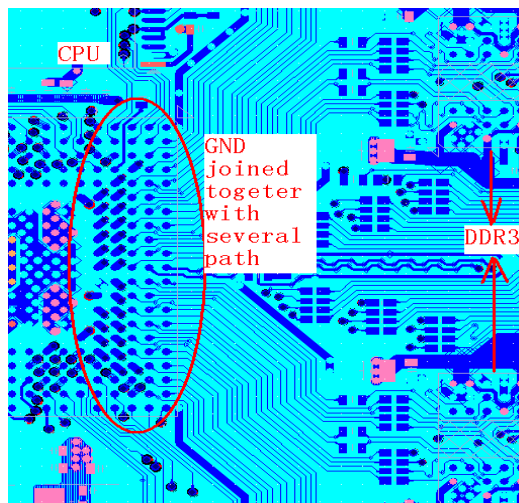
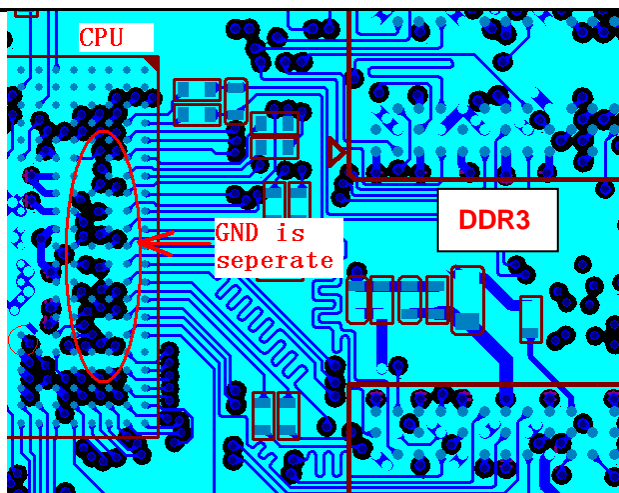

Figure 4-3 GND Joined Together
Figure 4-4 GND is seperate
- Each signal layer should have a nearby full ground plane to provide the shortest return current path. In order to maintain consistent characteristic impedance, it is important that the traces be routed over solid ground planes (Figure 4-3) not separate (Figure 4-4). A high speed signal trace should never be routed across a plane split. This will interrupt the return currents that flow beneath the conductor and can lead to crosstalk with neighboring traces. This will also increase emissions from the board.